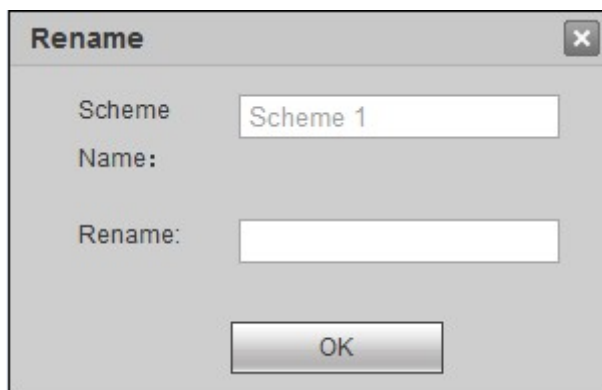

Figure 4-13
Step 2 Select “Management” tab. The system displays “Management” interface, as shown in Figure 4-13.